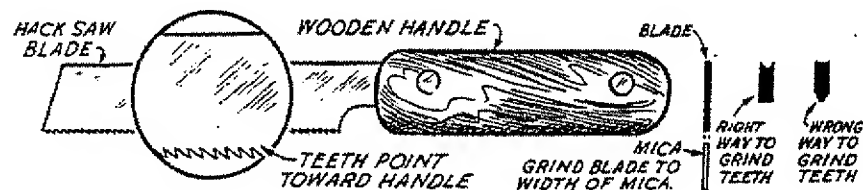
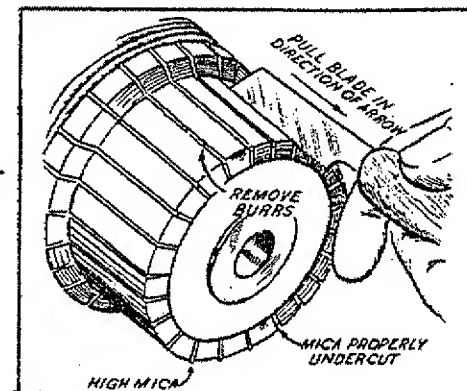

Fig. 29 Mica Undercutting Tool
Fig. 30 Undercutting Mica
**COMMUTATOR AND COLLECTOR RINGS.** - The mica insulation between the commutator bars, or segments, was originally undercut to a depth of 1/32 inch below the commutator surface. After a long period of service, the surface of the commutator may become worn down level with the mica. This condition would cause noisy brushes, sparking of the brushes, and pitting of the commutator. The mica should again be undercut to 1/32 inch depth. Remove the brush springs and pull all the brushes out of their guides. After tagging any leads disconnected (to assure correct reconnection) remove the end bell. With a mica undercutting tool, or an improvised tool fashioned from a hack saw blade (Fig. 29), carefully cut the mica between all of the commutator bars down to the 1/32 inch depth. Use care to avoid scratching the surface. Remove any burrs which may be formed along the edges of the bars, and clean all spaces between bars completely free of any metallic particles, Fig. 30.